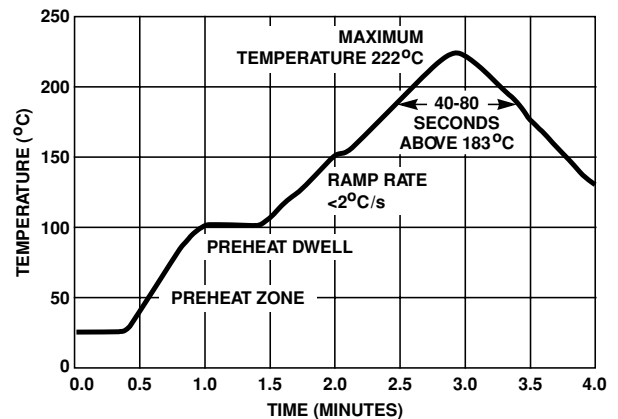

FIGURE 14. REFLOW SOLDER PROFILE
The principal techniques used for the soldering of components in surface mount technology are Infrared (IR) re-flow, vapour phase re-flow and wave soldering. Typical profiles are shown in Figures 14, 15 and 16. When wave soldering, the ML suppressor is attached to the circuit board by means of an adhesive. The assembly is then placed on a conveyor and run through the soldering process to contact the wave. With IR and vapour phase reflow; the device is placed in a solder paste on the substrate. As the solder paste is heated, it re-flows and solders the unit to the board.